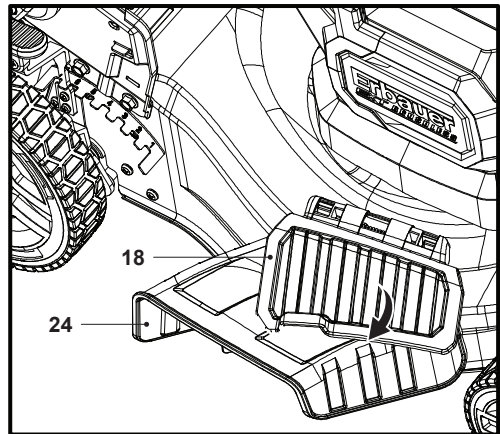

Fig. 17
4. Gently release the side deflector guard (18) (Fig. 17) and the side discharge attachment (24) is ready for use.